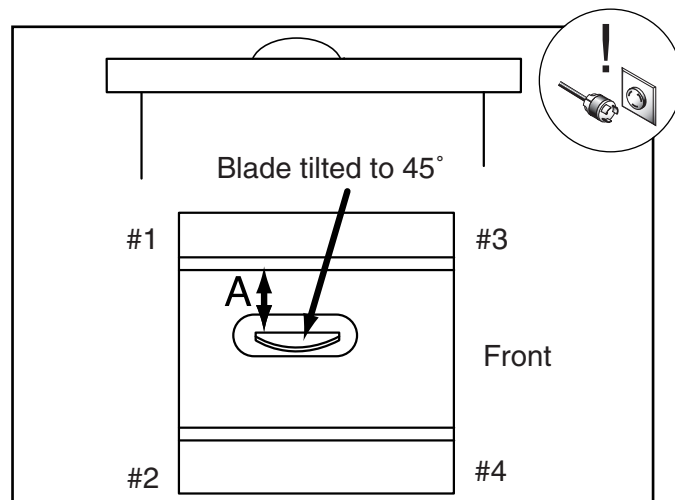

Figure 24. 45° blade parallelism.
10. Refer to **Figures 24** and **25**, for shim placement. If the distance of A is shorter than B, shim(s) will need to be placed under corners #1 and #2. If the distance of B is shorter than A, shim(s) will need to be placed under corners #3 and #4. Very thin shim stock works well, just make sure they are all the same thickness, and you put an equal number under each of the two corners.